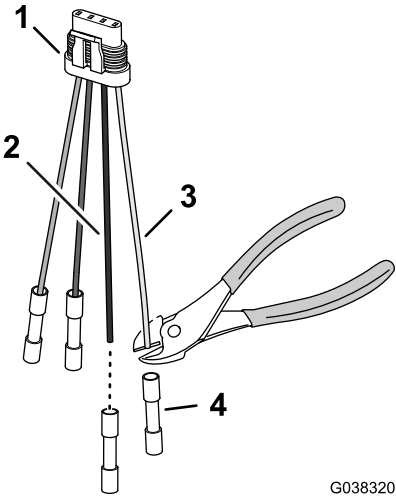

Figure 37
1. Cut off the butt-splice connectors for the pink wire and black wires of the 4-pin adapter (Figure 37).